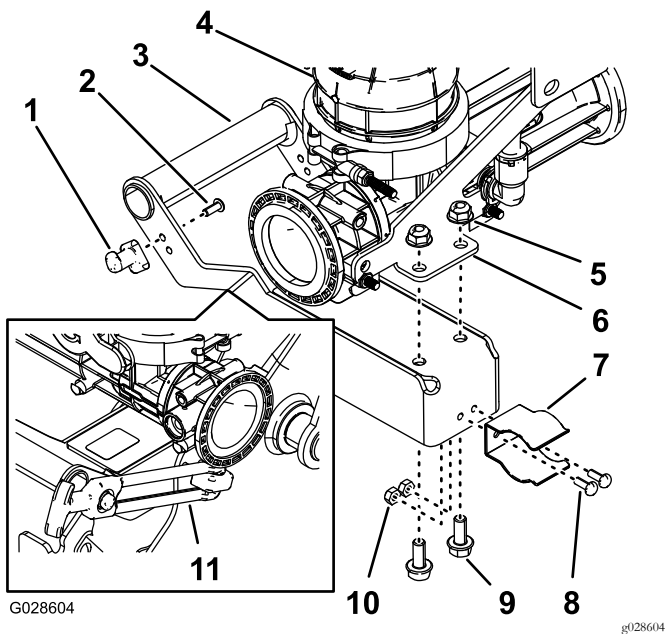

Figure 21
1. Assemble the latch post to the handle of the eductor (Figure 21) using the 2 socket-head screws (#10-24 x 1/2 inch).
- Assemble the spring clip to the latch handle (Figure 21) with the 2 bolts (#10-24 x 1/2 inch) and 2 locknuts (#10-24).
- Assemble the handle to the mount plate for the eductor (Figure 21) with 2 flange-head bolts (5/16 x 3/4 inch) and flange locknuts (5/16 inch).